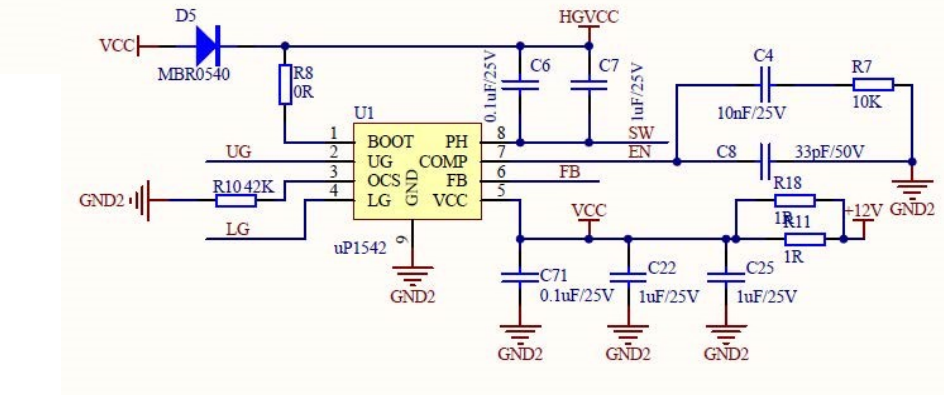
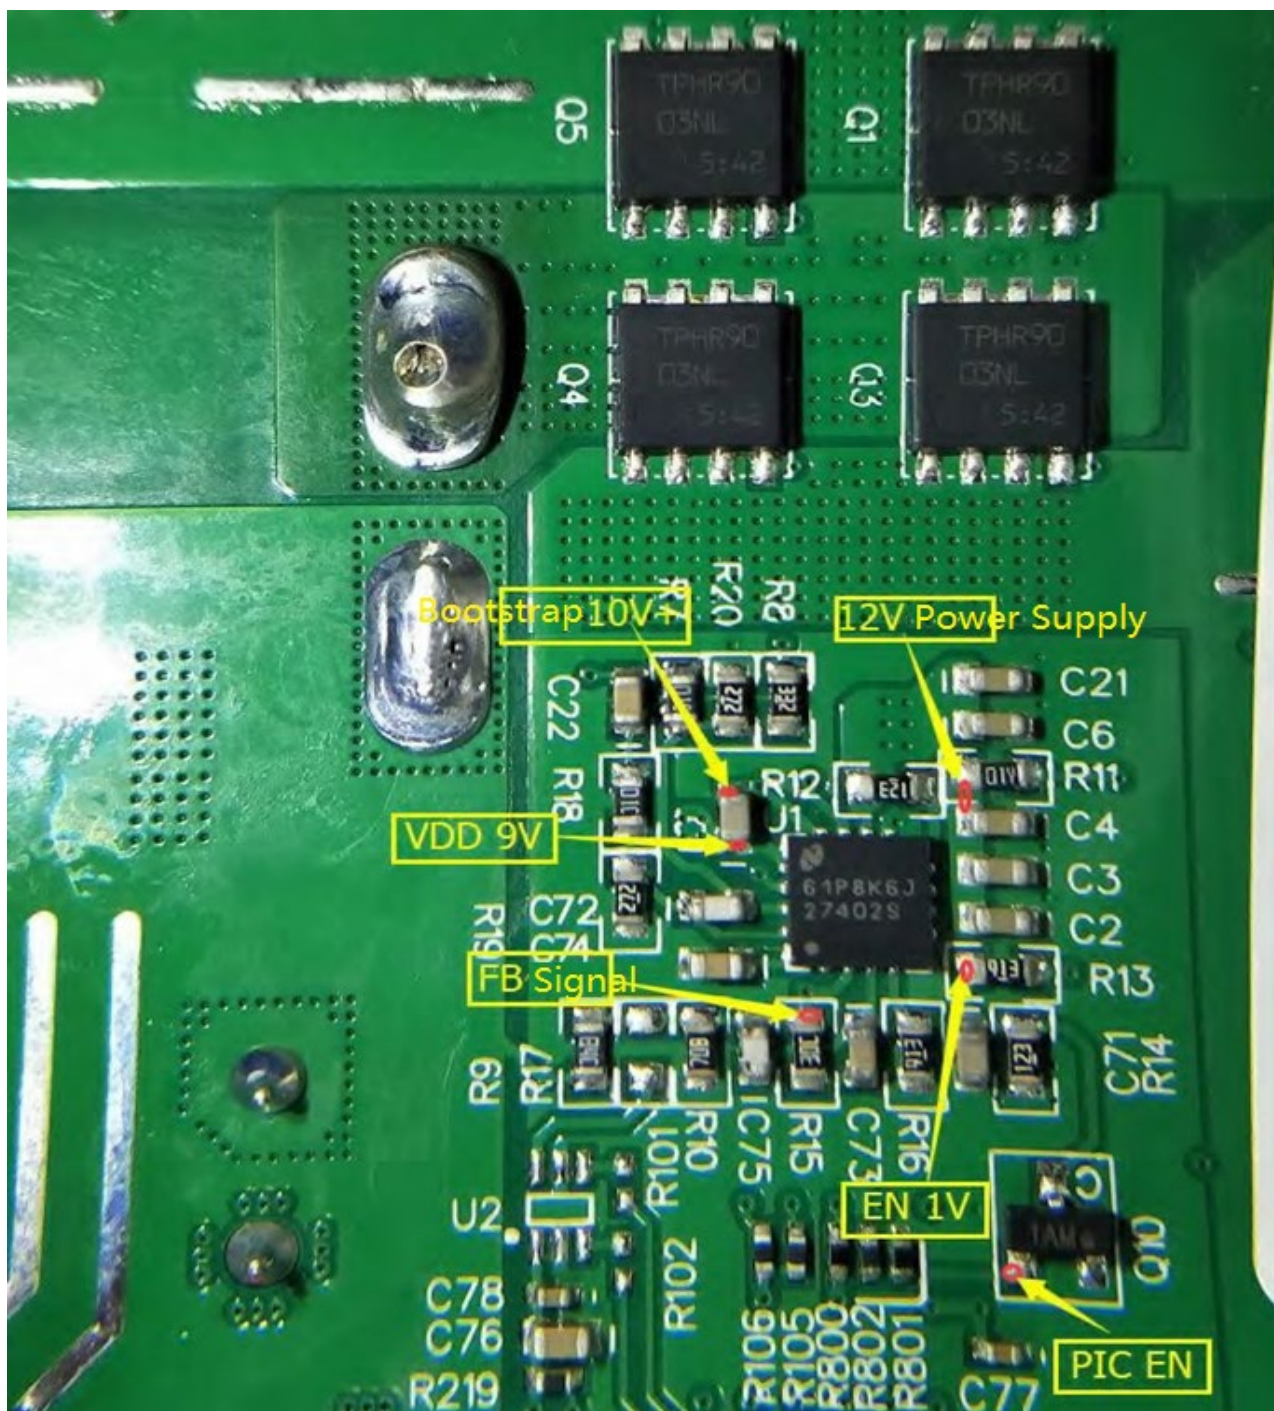

Fig 15. DC-DC Schematic Diagram
Fig 16. DC-DC Circuit
**6. DC-DC Circuit: Composed of LM27402SQ and CMOS tube TPHR9003NL. See below Fig 15 and Fig 16:**